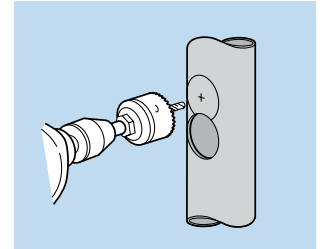

Fig.12
- Drill two overlapping holes of correct size at 45mm centres (Fig.12).